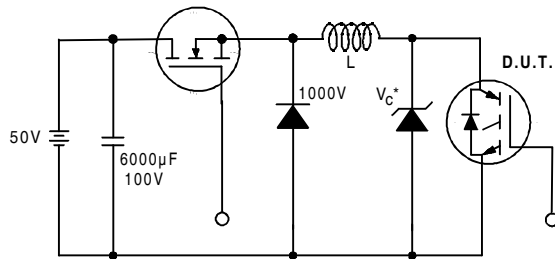

Figure 19. Clamped Inductive Load Test Circuit
- ② $V_{CC} = 80\%(V_{CES})$, $V_{GE} = 20V$, $L = 10\mu H$, $R_G = 5.0\Omega$ (figure 19)
- ③ Pulse width $\leq 80\mu s$; duty factor $\leq 0.1\%$.
- ④ Pulse width $5.0\mu s$, single shot.